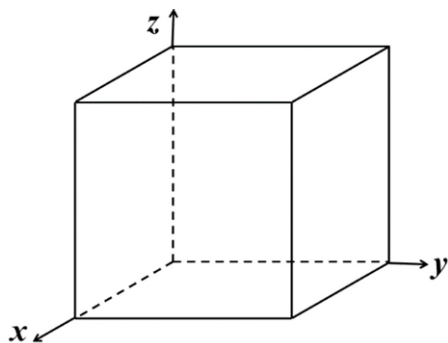

Figure 3
- (c) Draw the location of an “octahedral interstitial site” in an FCC unit cell. Specify the point coordinate of that octahedral interstitial site you draw. An empty unit cell is given in Figure 3 to draw and write your answer.